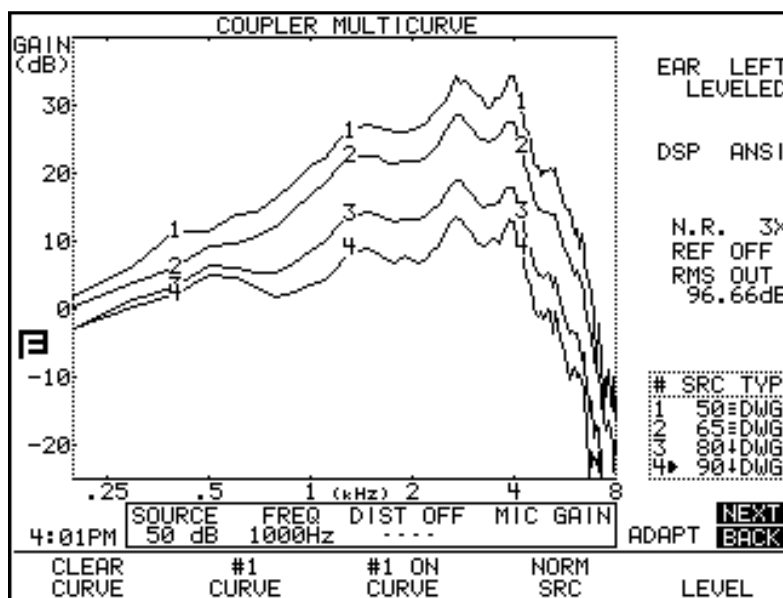

Figure 2.2.2—Frequency response measurement
7. Press [START/STOP] to begin the measurement. If you are using the COMP, DIG SPCH, or DIG FS source type, press [START/STOP] again to stop the measurement when it has stabilized. See Figure 2.2.2.